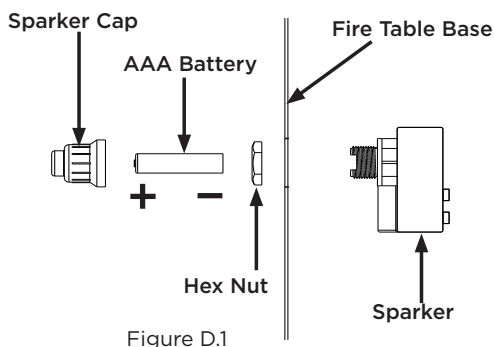

Figure D.1
3. Remove sparker cap and hex nut from the sparker. See Figure D.1.